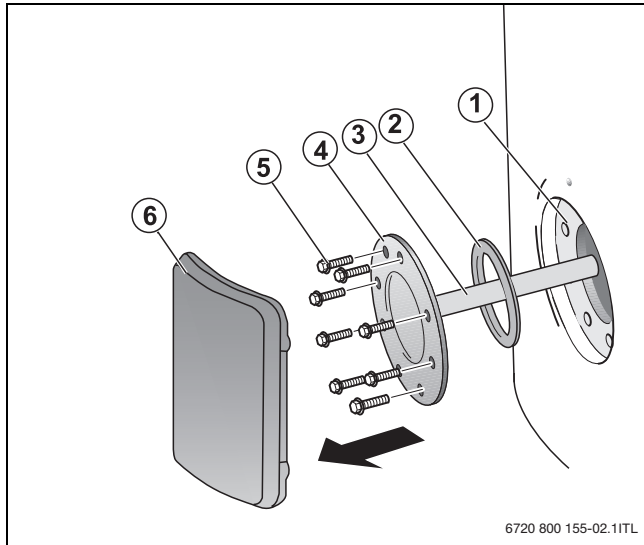

Fig. 19 Removing the cleanout cover
- ▶ Remove cleanout cover (→ Fig. 19, page 16), if it is not already removed.